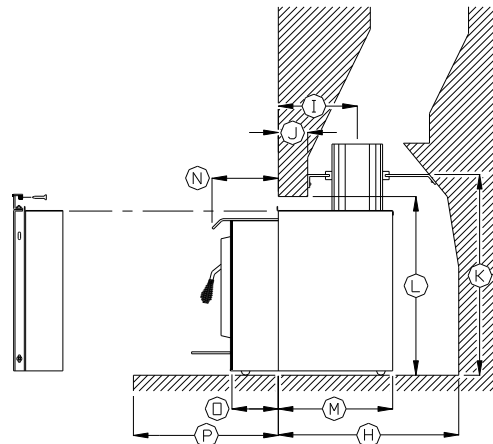

Figure 5
- A. Referring to the table and Figure 5, pick a location for the positive connector plate. It will be easiest to install the plate so that the hole for the flue is somewhere in between the extreme positions, and to use the adjustability of the faceplate to take up any inaccuracies in the fit. Alternatively, the plate itself can be moved up and back by using a 6" (152mm) extension directly on the flue.
4. **POSITIONING THE UNIT:** The more extended the insert, the greater the heat transfer to the room. When installed as an extended insert, the front edge of the air jacket will be installed flush with the fireplace facing. Otherwise the unit can be moved back as much as 2.5" (64 mm) or any position in between. The position chosen will depend on your own preference for most installations (where the lintel is less than 6" (152mm) and the depth is greater than 12.5" (318mm)). See the table and Figure 5.